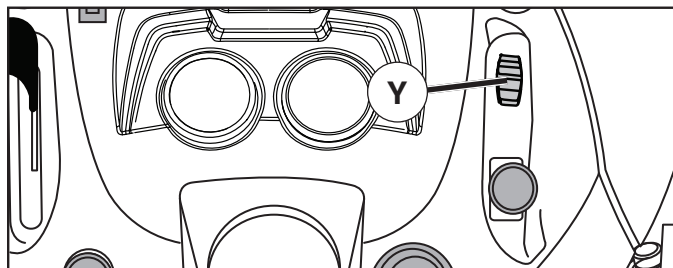

Fig. 14
TO USE DIFFERENTIAL LOCK CONTROL (Y) (See Fig. 14)